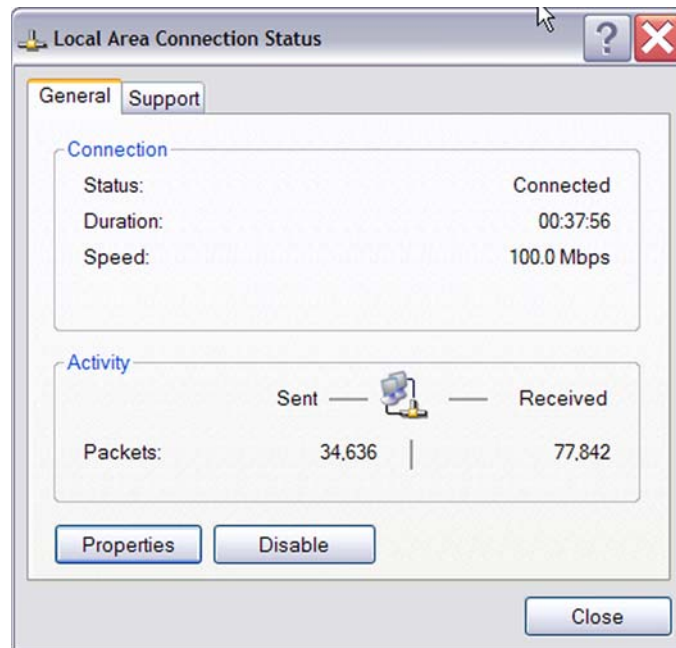

Figure 7. Local Area Connection Status Window
2. In the panel labeled **LAN or High-Speed Internet**, double-click **Local Area Connection** icon. The **Local Area Connection Status** window appears, see Figure 7.